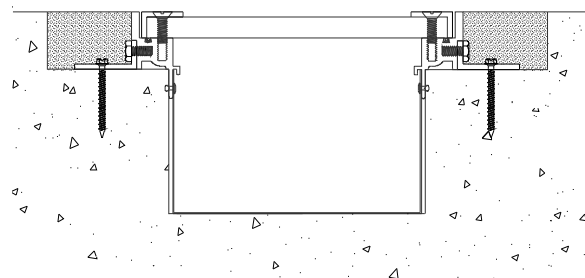

Figure 7
STEP 11. Place the cover plate back into its installed position in the frame. Attach the cover plate to the frame using the cover plate bolts, see Figure 7.